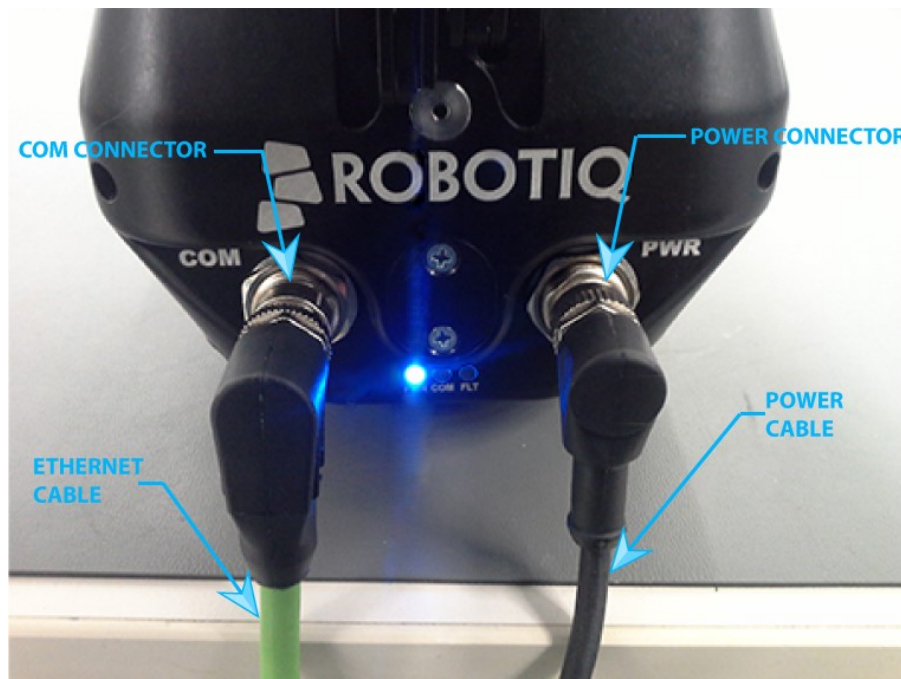
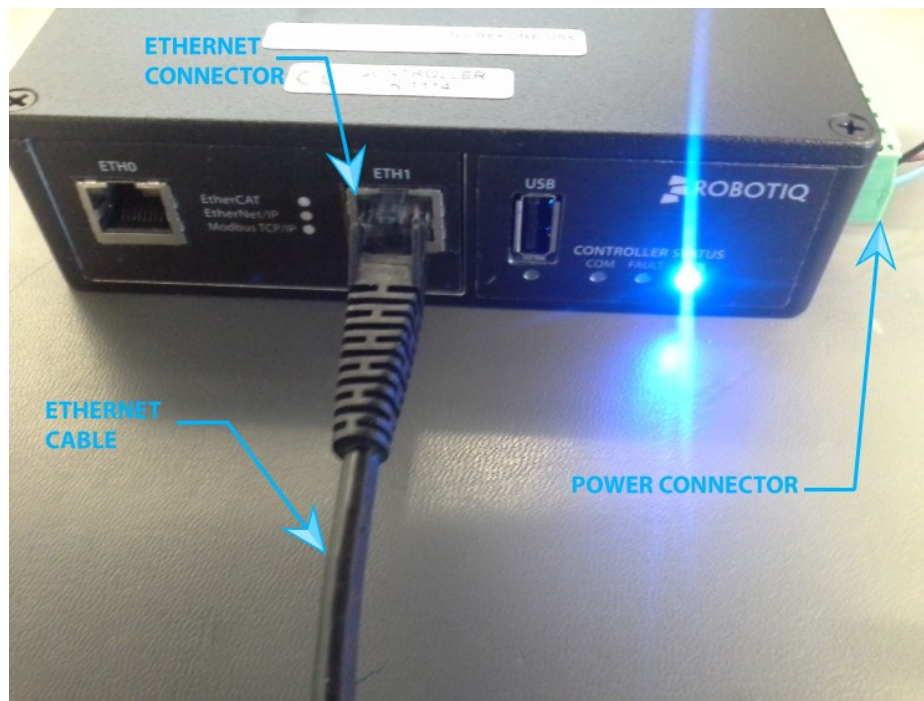

Fig. 3-7: Modbus TCP cabling setup for Robotiq 3-Finger Adaptive Robot Gripper
Fig. 3-8: Modbus TCP cabling setup for Adaptive Robot Gripper and Vacuum Gripper Series.
1. Unplug the Gripper from the power source by disconnecting the power cable from the 3-Finger Gripper (Fig. 3-7:) or the power connector from the Controller for the Adaptive Gripper or Vacuum Gripper (Fig. 3-8:).